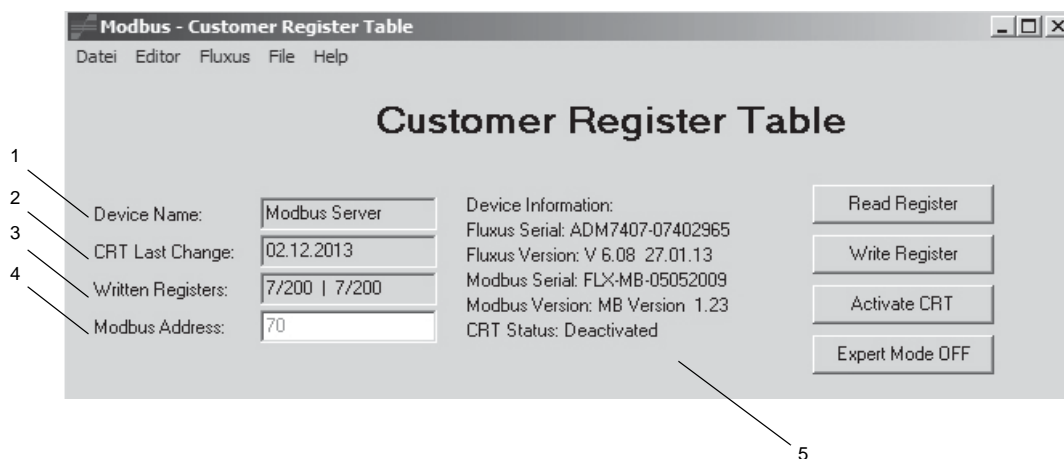

Fig. B.3: Start window (part)
- Enter the Modbus address of the transmitter in the start window (see 4 in Fig. B.3).
The connection to the transmitter is established. The current state and information about the Modbus server are displayed (see Tab. B.1 and Fig. B.3).